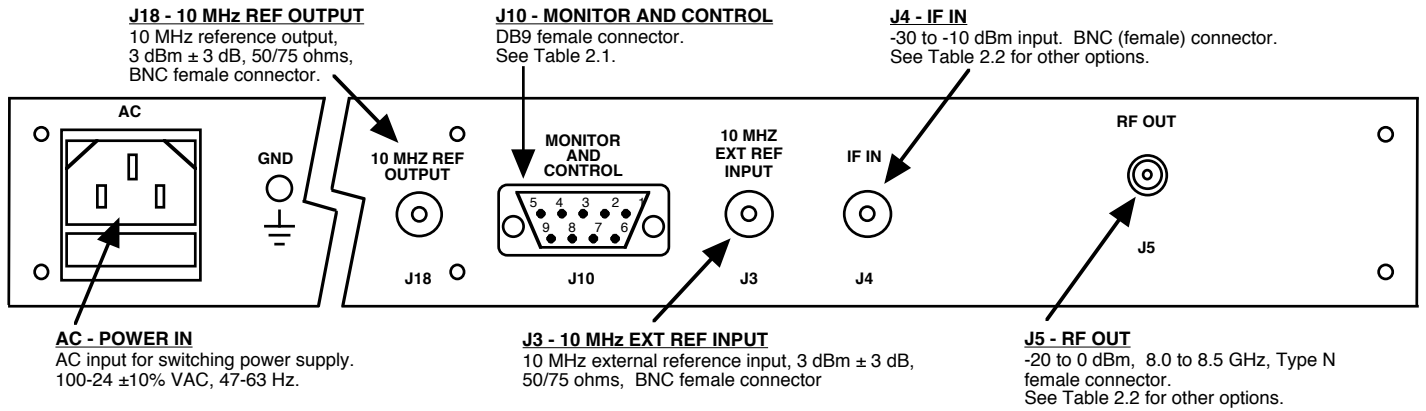

FIGURE 2.2 2015-8085 Rear Panel Inputs and Outputs
2.2 Rear Panel Input / Output Signals - Figure 2.2 shows the input and output connectors on the rear panel.
1. Connect a -30 dBm to -10 dBm, 70 MHz signal to IF IN, J4 (Figure 2.2)
Alarm indications appear on the LEDs (see figure 2.2).